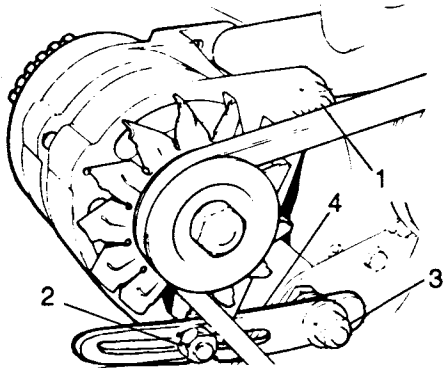

Fig B4.104
(2) Refer to Fig B4.104. Slacken the nuts (1) and (2) and remove the alternator belt.
(3) Remove the nut (3) and take off the alternator adjusting bracket (4).